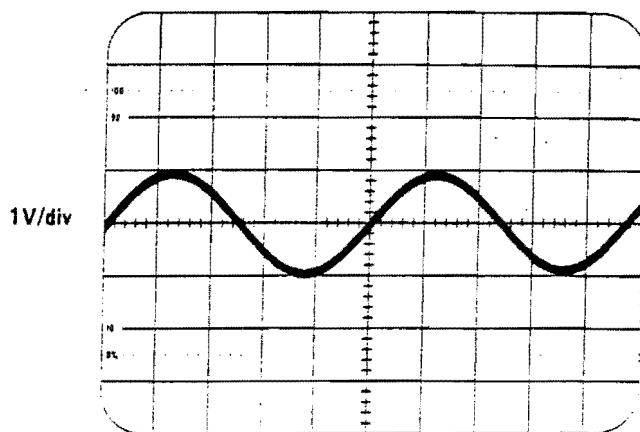

Fig. 2.1
11. The display should have a height of 2 divisions (see fig. 2.1).
15. Set the SECS/DIV switch to 0.2ms and observe the display (See fig. 2.1).